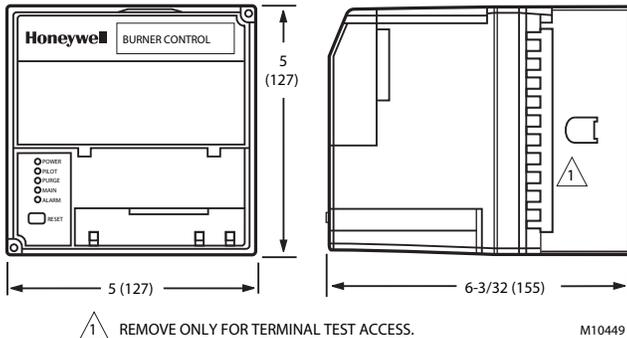

Fig. 3. Mounting dimensions of RM7896D Relay Module and Q7800B Subbase in in. (mm).
1. Wiring connections for the RM7896 are unique. Refer to Fig. 3 for proper subbase wiring.
- For proper wiring, refer to Fig. 3. For proper remote wiring of the Keyboard Display Module, refer to the Specifications for the Keyboard Display Module 4-line LCD KDM (32-00110), Network Interface Unit (63-2278), Data ControlBus™ Module (65-0091) or Extension Cable Assembly (65-0131).